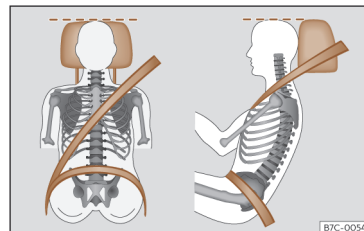

Fig. 16 Correct belt web and headrest positions
- Adjust the head restraint so that its upper edge is, as far as possible, at the same level as the top of your head, as close to eye level as possible¹⁾ >>> page 120. Keep the back of your neck as close as possible to the headrest >>> Fig. 16.
- Adjust the seat lengthwise so that you can press the pedals fully down with your knees slightly bent and there is a distance between the knee area and the dash panel of at least 10 cm (4 inches) >>> Fig. 16.